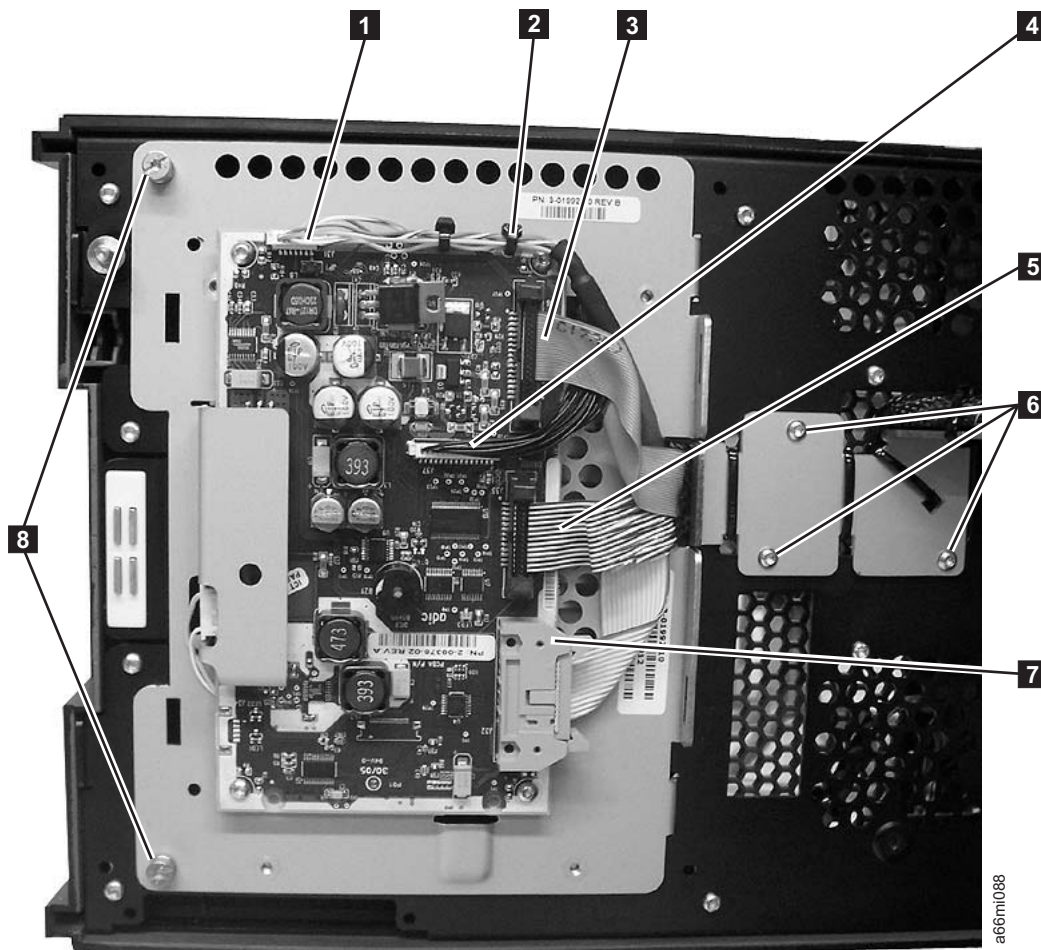

Figure 8-17. Operator Panel cabling
Operator panel problems may be caused by loose connectors. Visually check, and reseat if necessary, all of the connectors on the back of the operator panel (Figure 8-17 on page 8-22), the connector on the back of the I/O Station locking mechanism (**1** in Figure 8-15 on page 8-21), and the connectors that are located between the storage column 4 magazine and the back of the Library Control Blade (**2** and **3** in Figure 8-16 on page 8-21).
4. Disconnect the four cable connectors that are attached to the Operator Panel (see **1** , **3** , **5** , and **7** in Figure 8-17).
5. Cut the cable tie (**2** in Figure 8-17) if necessary.
6. Unscrew the two captivated screws (**8** in Figure 8-17) located on the left side of the Operator Panel.